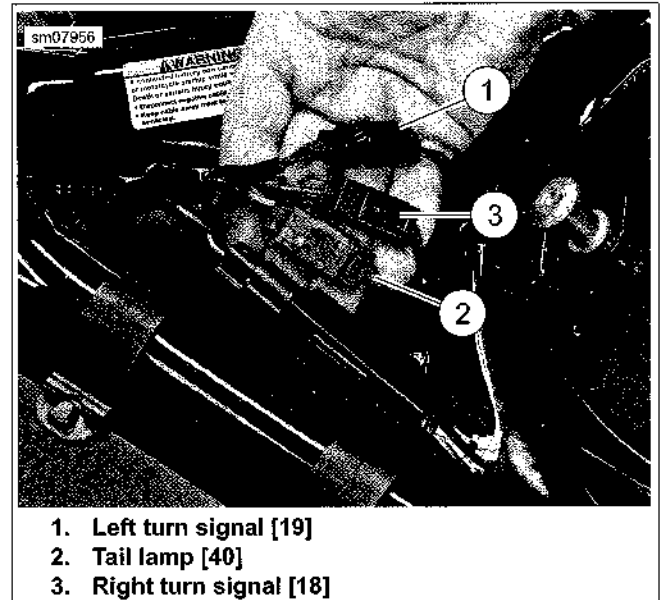

Figure 2-151. Rear Lighting Connectors
4. See Figure 2-151. Disconnect rear lighting connectors.
- a. Right turn signal [18] (3)
- b. Tail lamp [40] (2)
- c. Left turn signal [19] (1)
- c. Install strut covers (3).
- d. Install the short saddlebag supports (4) on the front support bolts.
- e. Install the long saddlebag supports (5) on the rear support bolts.
- f. Install bolt (6), spacer (7), grommet (8), washer (9) and seat post (10) through fender and frame cross member tab.
- b. See Figure 2-151. Connect tail lamp connector [94] (3) and left [19] (1) and right [18] (2) turn signal connectors.